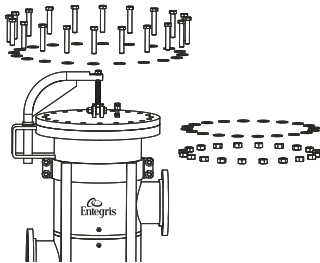

Figure 12.
1. Remove the bolts/studs, nuts, and washers from top of housing flange with appropriately sized wrench, Figure 12.